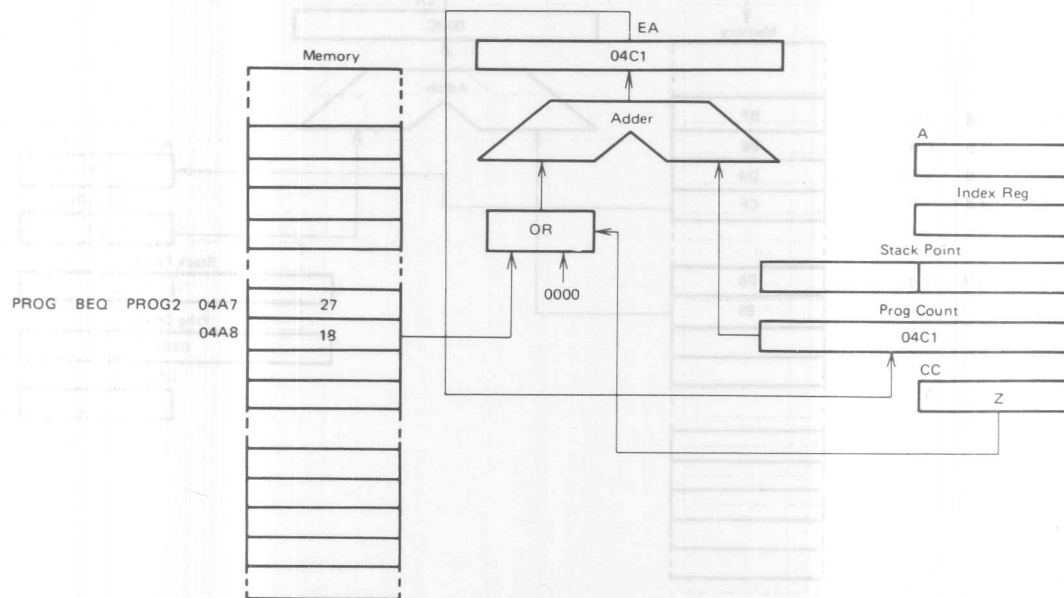

Figure 19 Relative Addressing Example
Refer to Figure 19. The relative addressing mode applies only to the branch instructions. In this mode the contents of the byte following the opcode is added to the program counter when the branch is taken. $EA = (PC) + 2 + Rel$. Rel is the contents of the location following the instruction opcode with bit 7 being the sign bit. If the branch is not taken $Rel = 0$, when a branch takes place, the program goes to somewhere within the range of +129 bytes to -127 of the present instruction. These instructions are two bytes long.